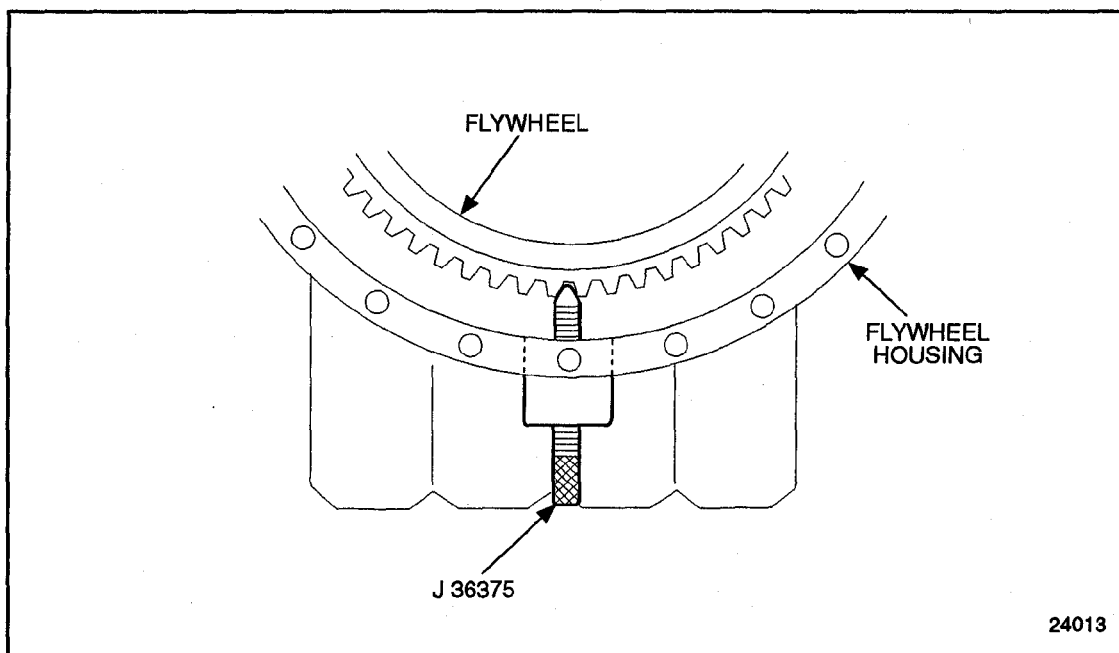

Figure 1-214 Flywheel Lock
3. Install the flywheel lock, J 36375-A. See Figure 1-214.
1. If removed, install the flywheel lock J 36375–A to the inspection plug hole in the bottom of the flywheel housing. See Figure 1-214.